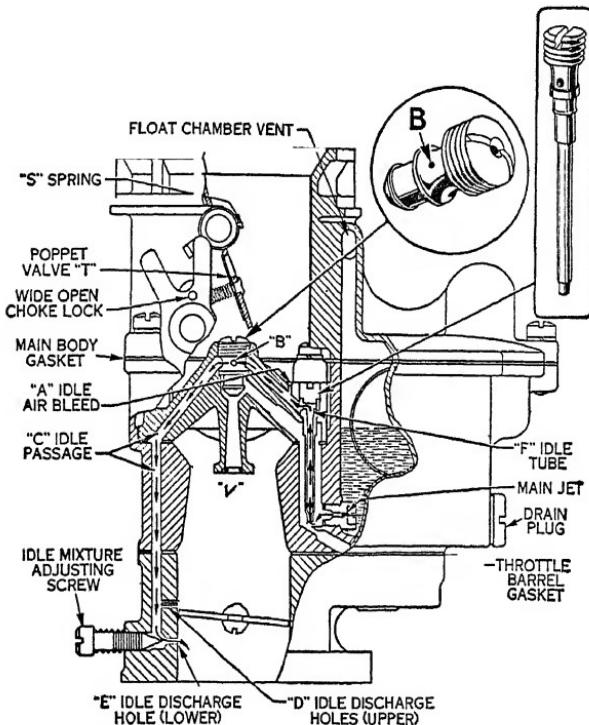
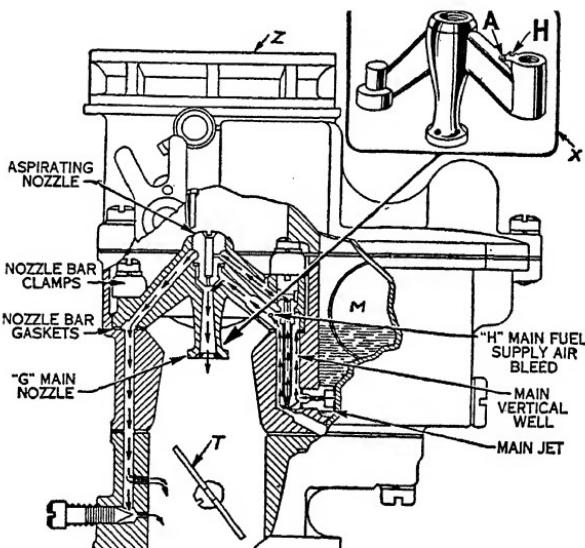
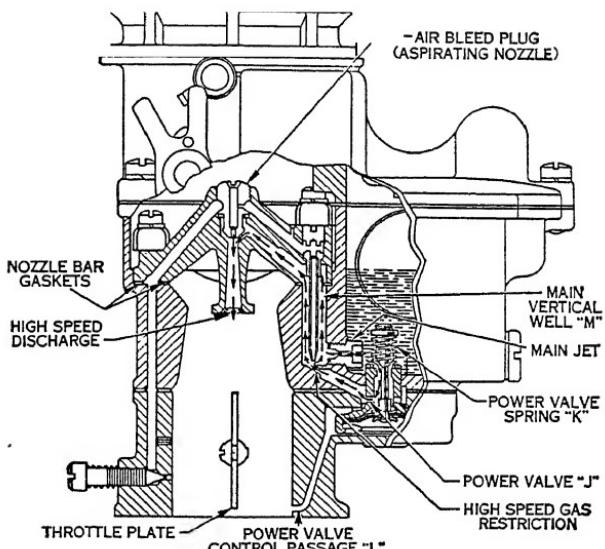

Fig. 1. Ford-Mercury-Zephyr Idle Fuel Supply
Fig. 2. Ford-Mercury-Zephyr Main Fuel Supply
Fig. 3. Power Fuel Supply
plain tube type. The jet and venturi sizes, as well as the float level, vary for the different models. The fuel level for the Ford type is  $2\frac{3}{32}$  inch maximum and  $2\frac{1}{32}$  inch minimum. The level for the Lincoln-Zephyr is  $2\frac{1}{32}$  inch maximum and  $1\frac{9}{32}$  inch minimum. The general design and construction of the carburetor is illustrated in Figs. 1 to 4, inclusive.
in a removable nozzle rail or bar which is indicated at the inset X in Fig. 2. As in all carburetors, the float *M* in the float chamber, Fig. 2, controls the level of the gasoline therein. Air entering the top of the carburetor at *Z* blows down past the nozzle bar and the main discharge nozzle, which is located at the smallest portion of the venturi marked *V* in Fig. 1. The amount of air flowing is controlled by means of the throttle plate marked *T*, Fig. 2. The reader
**Choke.** In the case of an initial start with the engine cold, the choke button is pulled out on the dash, which results in the throttle valve being automatically opened to the correct position for starting. It is not necessary for the driver to pull out the throttle button, or to pump the accelerator when starting. With full choke, the valve is held in a locked position by the control lever. If the choke is held in this position after the engine starts firing, a small poppet valve or air bleeder *T*, Fig. 1, opens to allow air to pass. This is so designed as to produce a certain amount of noise to attract the driver's attention to the fact that the choke is in closed position, and the choke button should be returned to normal operating position. The torsion spring *S* tends to close the choke valve when part-choke position is selected by the driver. As the engine speeds up, the in-rushing air tends to force the valve open and thus compensate for the increased speed. While this helps to provide smooth operation in part-choke position, the choke button should be returned to normal position just as quickly as possible.
**Idle Fuel Supply.** Following the arrows in Fig. 1, it will be noted that the fuel flows from the carburetor bowl through the main metering jet and into the idle tube *F*. An idle air bleed *A*, Fig. 1 and inset, introduces air into the fuel. An additional small amount of air is bled in by the hole *B* in the aspirating nozzle, inset, Fig. 1. The idle mixture of gasoline and air goes around the aspirating nozzle *B* and travels down the idle passages *C* to the idle discharge holes *D* and *E*, as shown in Figs. 1 and 2. With the engine set to rotate at a speed of 350 revolutions per minute, the mixture will be discharged out of the lower hole *E* only, and as the throttle plate opens and the speed is increased, the upper hole *D* will start discharging at about 450 revolutions per minute. These upper holes will start discharging very gradually from about 450 revolutions per minute, reach their maximum about 750 revolutions per minute, and taper off to about 1250 revolutions per minute of the engine. They thus become less effective as the main nozzle starts to discharge.
**Main Fuel Supply.** As the speed of the engine reaches approximately 900 revolutions per minute, the main nozzle *G*, Fig. 2, starts to deliver fuel which is mixed with the fuel being supplied by the idle system. Between 900 revolutions per minute and 1250 revolutions per minute, there is a blending of the mixtures coming from the idle system and the main metering system. The power valve *J*, Fig. 3, remains closed during this range, and up to approximately 3800 r.p.m., except when under heavy load, which would cause the manifold vacuum to drop. The path of the fuel during this range is through the main jet, as shown in Fig. 2, up through the main vertical well, then up and around the idle tube. The main supply of fuel is emulsified by air entering at the main fuel supply air bleed *H*, which lightens the fuel and makes the mixture more responsive to sensitive throttle changes. A further aspiration is supplied by the aspirating nozzle as the fuel starts down the main nozzle *G*. A nozzle bar, inset *X*, Fig. 2, one for each carburetor barrel is held in place by clamps and the channels sealed against
has been opened to a point which will allow the car to operate on the road with an engine speed of approximately 3800 r.p.m., the power valve will open, due to the spring pressure overcoming the vacuum within the carburetor. This occurs at approximately  $8\frac{1}{2}$  to 9 inches of mercury. The same action occurs when climbing hills or in any other operation where the greatest amount of power is required and when the throttle plate is opened wide. When the spring actuated valve has opened, whether on level road or on hills, fuel will flow into the power valve and through the fuel passages or channels and through the high speed gas restrictions into the center or main vertical well *M*, as shown by the arrows in Fig. 3. Thus the additional fuel